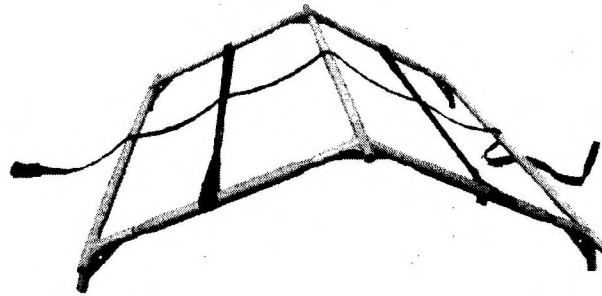

Fig 11 Insulation roof restraints fitted and support straps placed across frame (typical arrangement)
- 13.1 Drape the strap roof insulation and strap roof insulation centrally over the roof frame Fig 11.